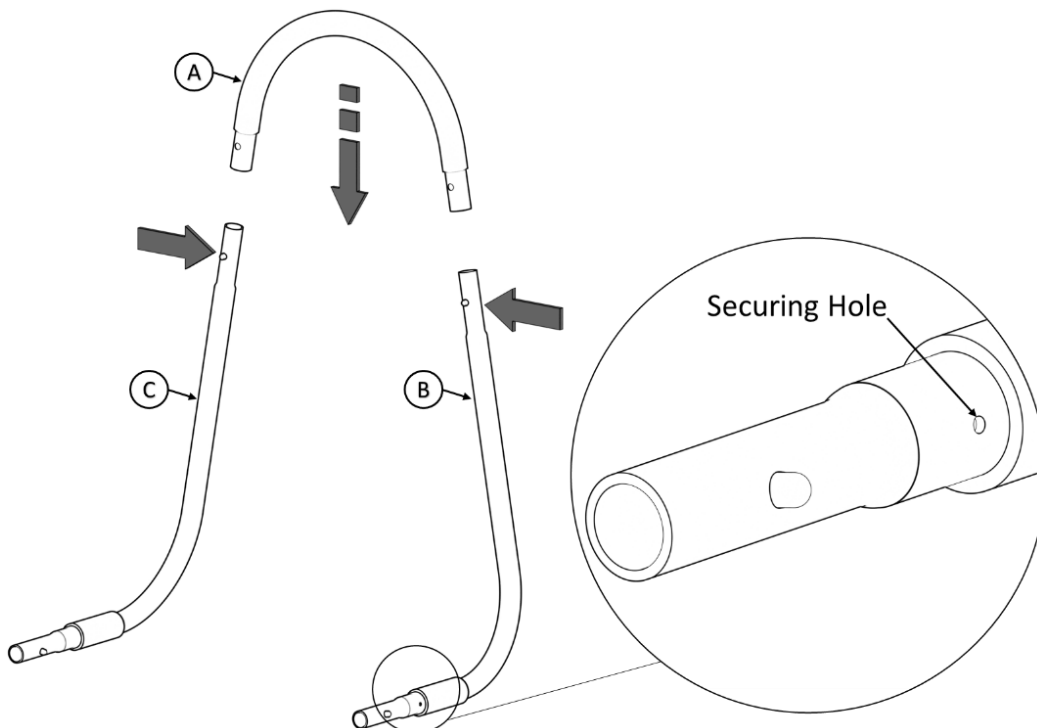

FIGURE 2
2. Make sure the *Securing Hole* on B and C is facing out as shown in *FIGURE 2*. Attach Handle (A) to B and C until the spring pin engages.